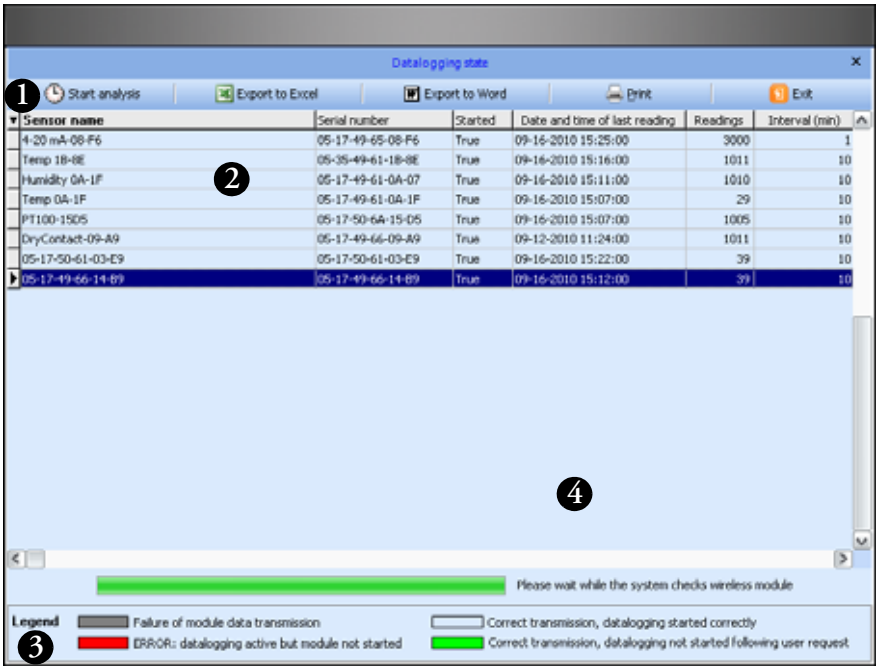

Figure 99. Data logging status window
- 2. Click on Start analysis (#1 in Figure 99) to begin testing.